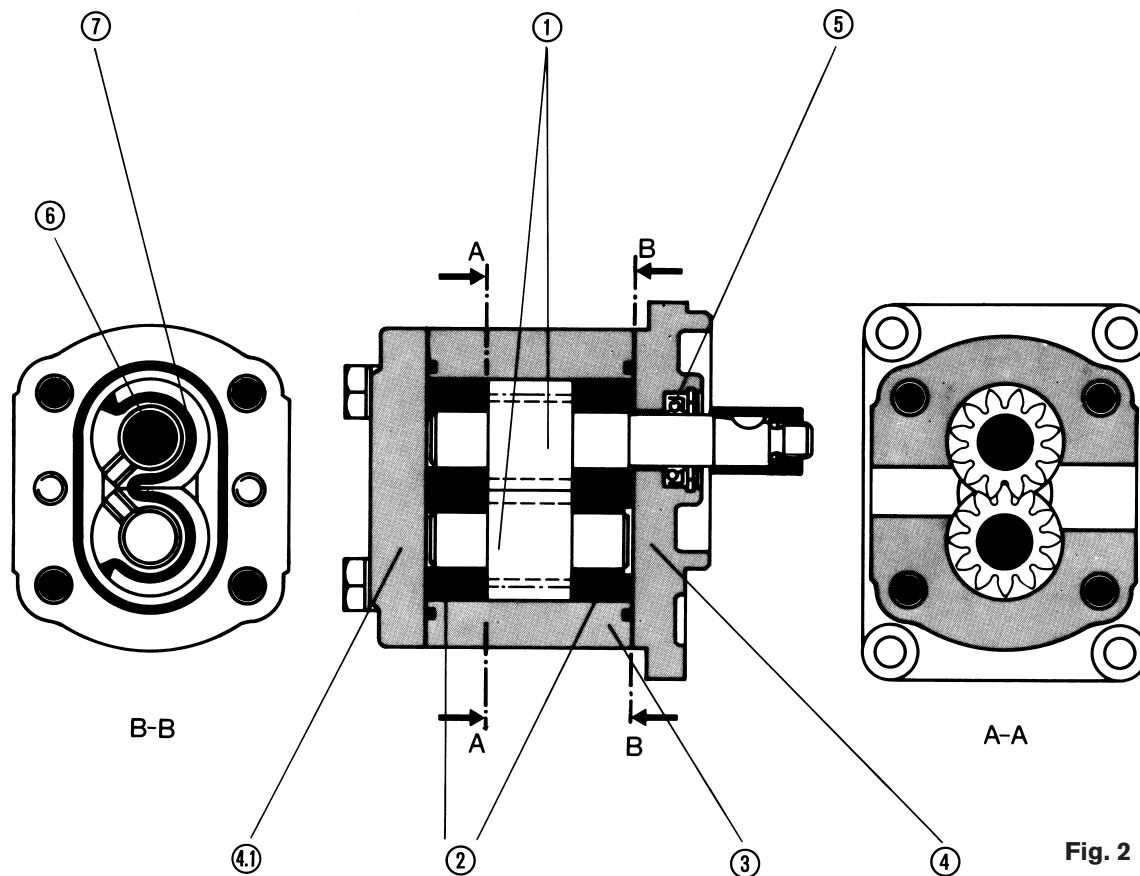

Fig. 2
The pump (see FIG. 2) consists essentially of a pair of gears ① supported in bearings ② and the body ③ with front and rear covers ④ and ④.1. The drive shaft protrudes from the front cover where it is sealed by the shaft seal ⑤.